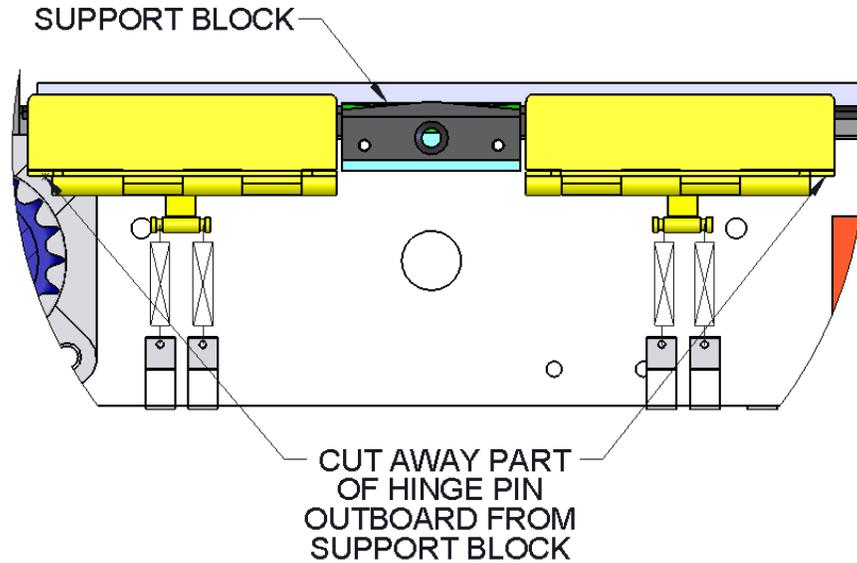

FIGURE 2
1. The guide hinges must be mounted with the cut-away part of the hinge pin facing outboard, away from the support block that is mounted between the 2 hinges (See Figure 2).